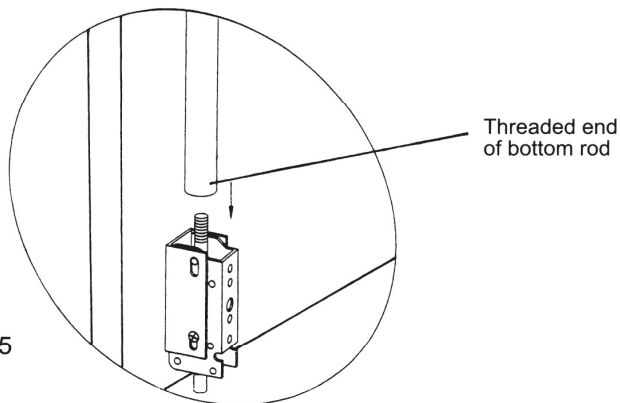

Figure 5
- c. Screw the threaded end of bottom rod into bottom latch assembly. (See Figure 5.)
- If the hole on bottom rod connector does not match alignment with the mounting hole of bit glide plate, adjust height of bottom rod as shown at Figure 5.